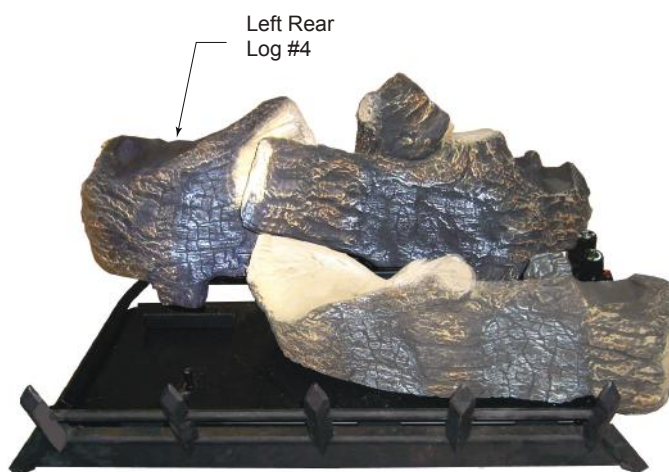

Figure 6.6 - Log #4 Placement
4. Place left rear log (#4) on pin located on rear support bracket on left side. See Figure 6.6.